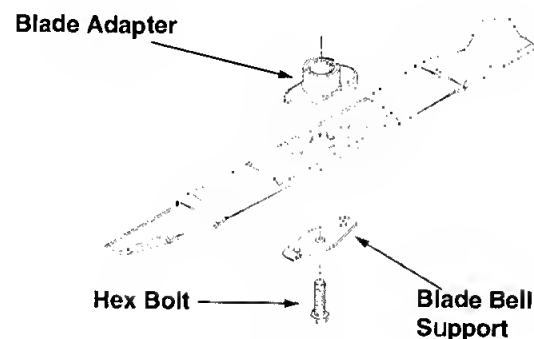

Figure 13
- Install the blade adapter on the crankshaft with the "star" away from the engine. See figure 13.